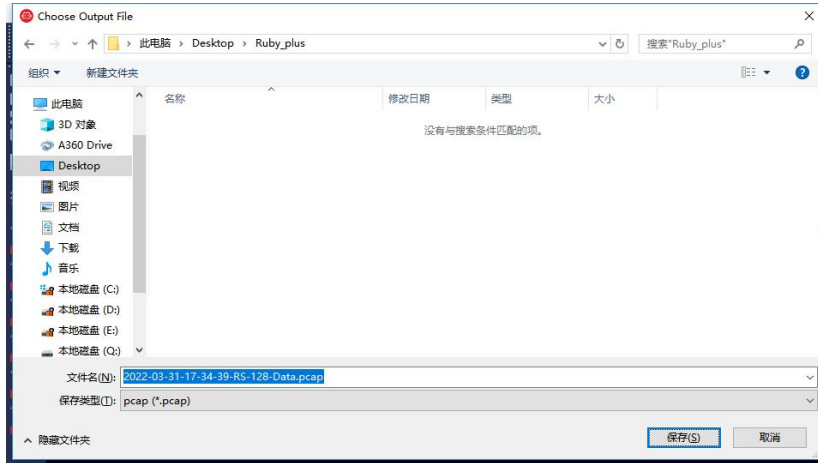

Figure C-6 RSView Record Saving Dialog.
2. In the “Choose Output File” dialog that pops up, set the save path and file name, and then click the **Save (S)** button (Figure C-6). RSView will start to write the packet file into the target pcap file. (Note: RS-Ruby Plus will generate huge volume of data. As the recording time gets longer, the target pcap file will become larger. Therefore, it is better to save the recorded file to the HDD or SSD instead of a slow subsystem such as a USB drive or network drive.)